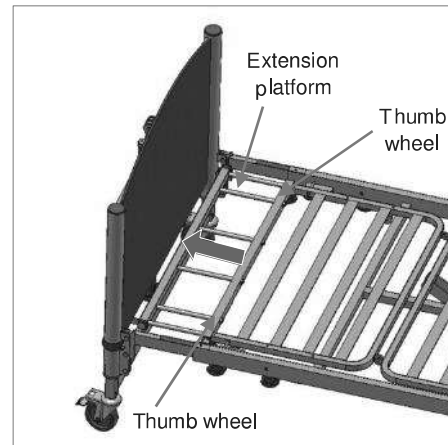

Figure 16: Extending the platform
- Slide the platform extension out until it reaches the end stops (*Figure 16*).